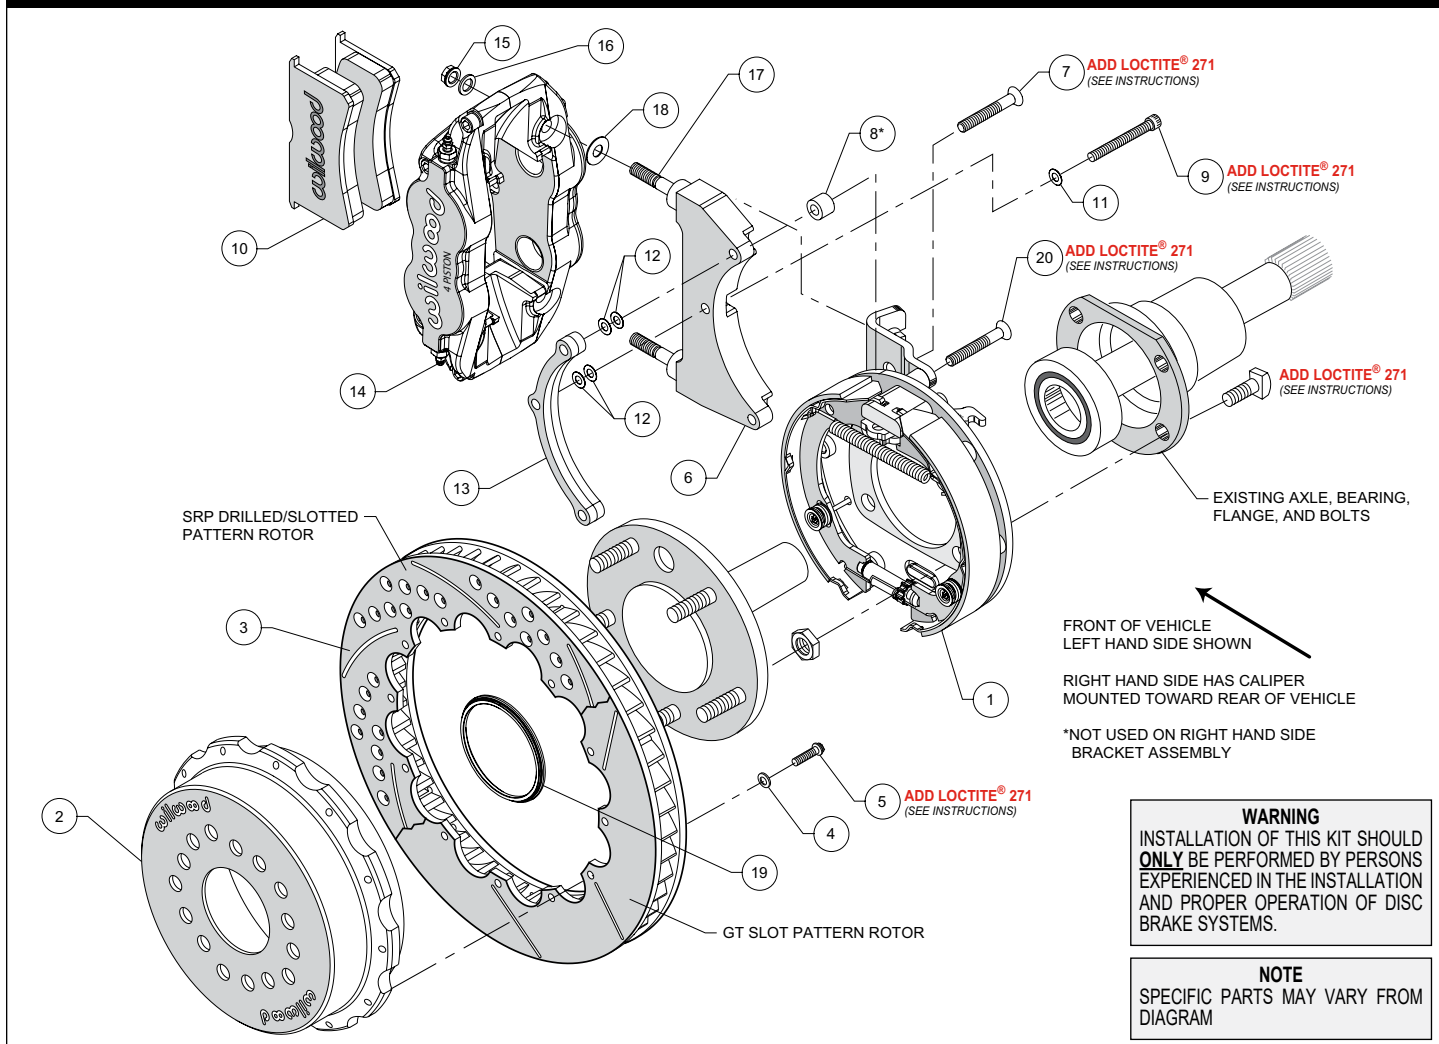
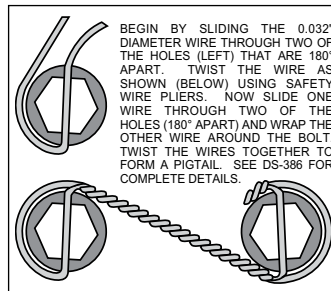

Figure 1. Typical Installation Configuration
Figure 4
Assembly Instructions (numbers in parenthesis refer to the parts list and Figure 1 on the preceding pages): **CAUTION:** All mounting bolts must fully engage threaded holes.
- Orient the bracket assembly (1), as shown in Figure 1, and mount to the axle housing flange using the Original Equipment Manufacturer (OEM) bolts and nuts, Figure 1. Ensure that the bracket assembly backing plate fits flush against the axle housing flange. Apply red *Loctite*® 271 to the OEM bolt threads and torque to OEM specifications.
- **NOTE:** Please reference the caution statement at the beginning of the assembly instructions. The caliper mounting bracket assembly (6) should initially be installed with clean, dry threads on the mounting bolts. **NOTE:** The caliper bracket must tighten squarely against the back side of the bracket kit assembly (1). The ends of the bolts should not exceed inside face of insert. Later, after the caliper alignment has been checked, the mount bolts will be secured using red *Loctite*® 271.
Left Hand Side - Remove and discard temporary rubber spacer from bolt (7). Orient the left hand bracket (6) and 3-hole spacer (13) as shown in Figure 1 and Photo 1, and install using bolts (9) and washers (11) in the middle and lower hole locations, Figure 1. Use bolt (7) in the upper hole with spacer (8) placed between the bracket (6) and the cable stop bracket, Photo 1. Initially place two .015" shim washers (12) on each of the three bolts between the bracket and 3-hole spacer, Figure 1. Temporarily tighten the mounting bolts.
- Orient the rotor (3) and the hat (2) as shown in Figure 1 and Photo 3. Attach rotor to hat using bolts (5) and washers (4). Apply red *Loctite*® 271 to the bolt threads and torque to 155 **in-lb** using a criss-cross pattern. For an added measure of security, the bolts may be safety wired using standard 0.032 inch diameter stainless steel safety wire as shown in Figure 4. Please refer to Wilwood's data sheet DS-386 (available at www.wilwood.com/Pdf/DataSheets/ds386.pdf) for complete safety wire installation instructions.
- Slide the rotor registration adapter (19) onto the axle register on the axle flange with the smaller O.D. facing toward the rotor/hat (2/3), Photo 4. Align the correct hole pattern in the hat with the stud pattern on the axle flange and slide into place, Figure 1 and Photo 5. **NOTE:** The rotor/hat must fit flush against the axle flange or excessive rotor run out may result. Install three lug nuts (finger tight) to keep the rotor/hat assembly in place while continuing with the installation. **NOTE:** Some OEM and after market axles come with stud sizes larger than 0.50" diameter. Verify stud size and have a qualified machine shop drill the bolt circle of the hat/rotor to the correct stud size, if necessary.